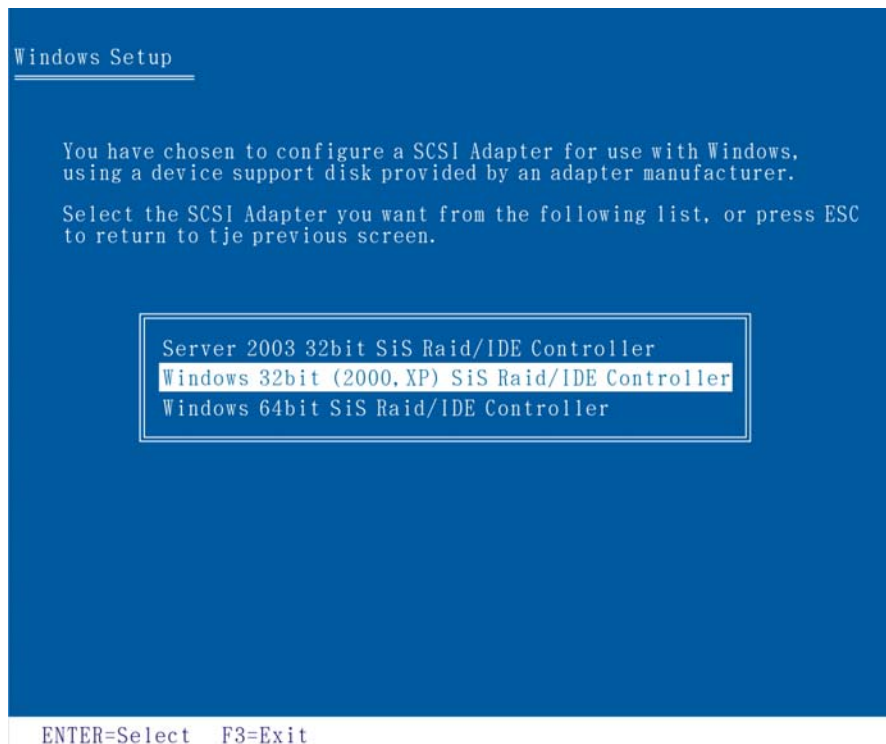

Figure 8-13: RAID Driver Selection
- Step 6:** The screen (**Figure 8-13**) with the available drivers for the different operating systems appears.
- Step 7:** In **Figure 8-13**, select the operating system being installed on the system.